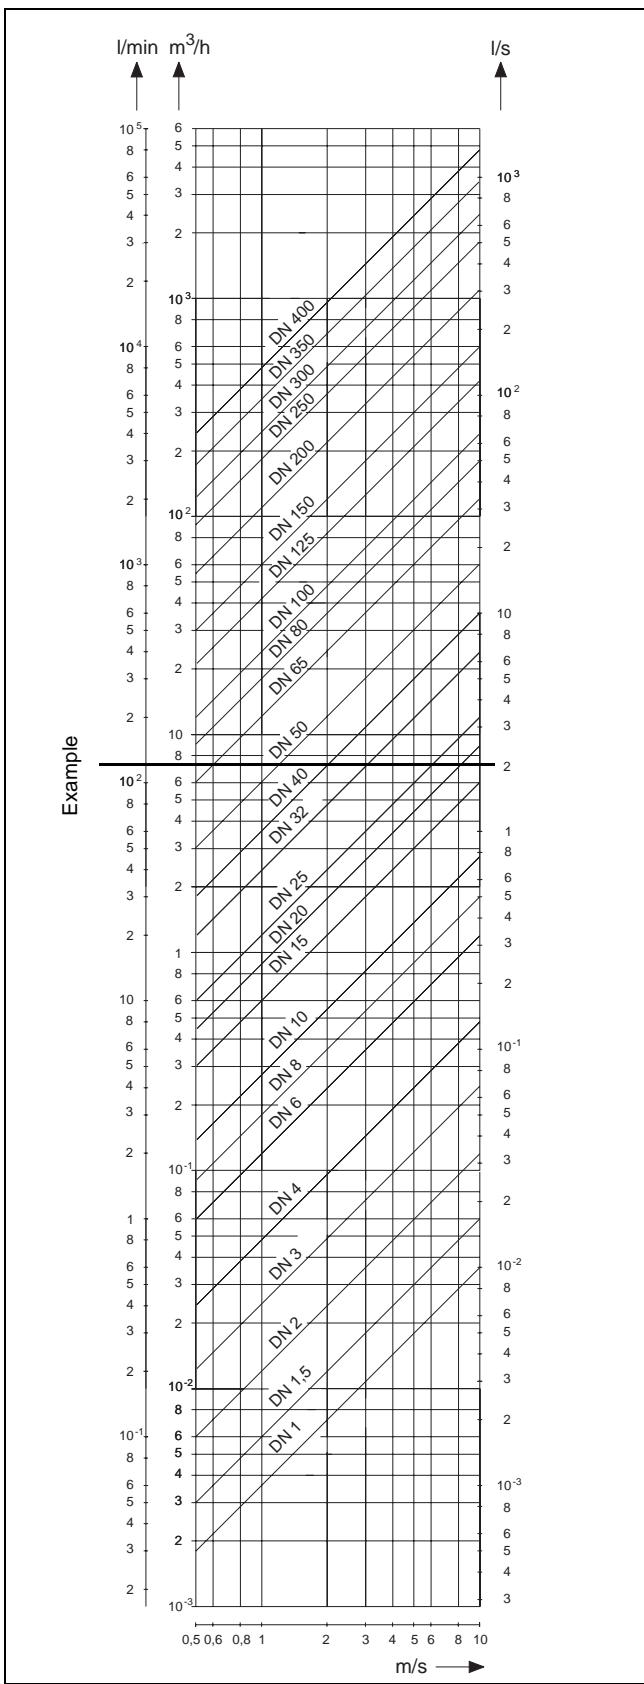

Fig.4 Flowrate Nomograph DN 1 to DN 400 [1/25" to 16"]
The volumetric flowrate is a function of the flow velocity and the flowmeter size. The nomograph (Fig. 4) shows the flowrate ranges which can be metered with a specific flowmeter size and the flowmeter sizes which are suitable for a specific flowrate.
- The flow velocity can also be determined from the Flowrate Nomograph Fig. 4.